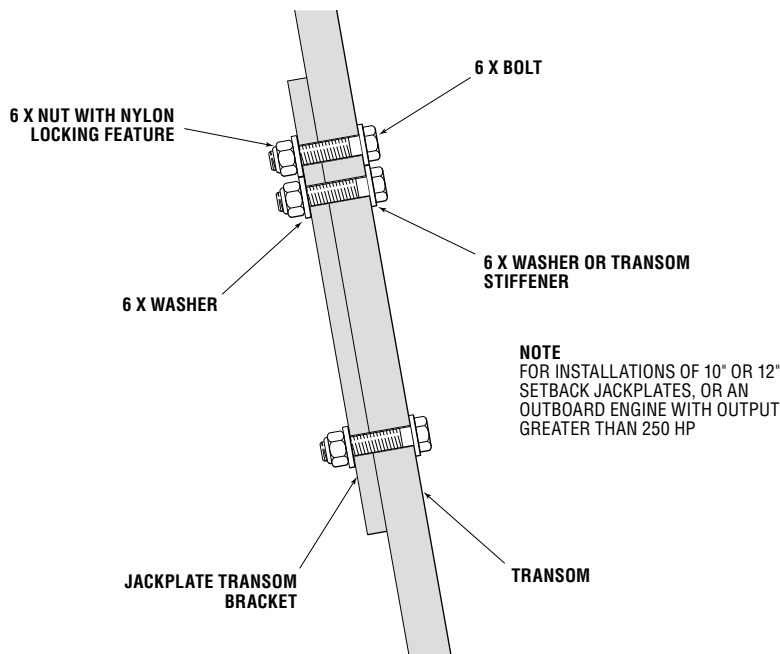

Figure 8. Jackplate to transom connection for 10" or 12" setbacks, or for outboards greater than 250 HP.
3. If the Jackplate setback is 10 inches or more, or if the outboard engine output is 250 horsepower or more, it is recommended to use 6 mounting bolts at the transom connection. Additional mounting bolts should be used in the upper holes on the Jackplate hole pattern. See Figure 8.